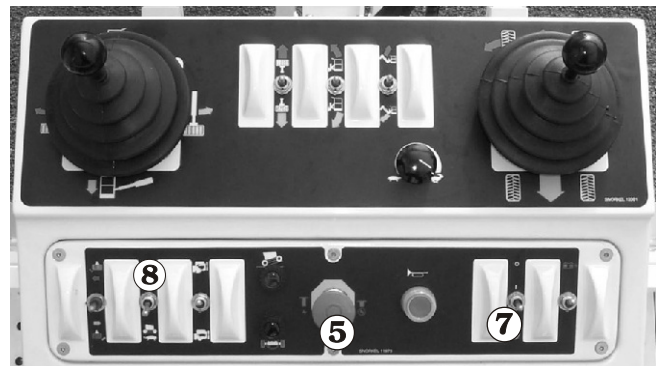

Figure 7.3—Platform Controls (Electric Controls)
5. Pull the emergency stop button^⑤ out (refer to Figure 7.3 and 7.4).
2. Press the range switch^⑧ (see Figure 7.3 and 7.4) to change the drive system from low speed, high torque operation to high speed, low torque operation.